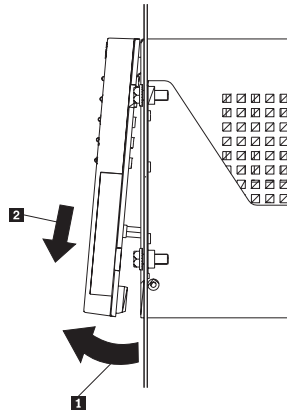

Figure 7. Removing the controller-unit bezel (machine types 3526 and 3552)
1. Remove the front bezel (machine types 3526 and 3552), from the controller unit, as shown in Figure 7. Carefully pull the bottom of the bezel out to release the pins **1** ; then slide the bezel down **2** .